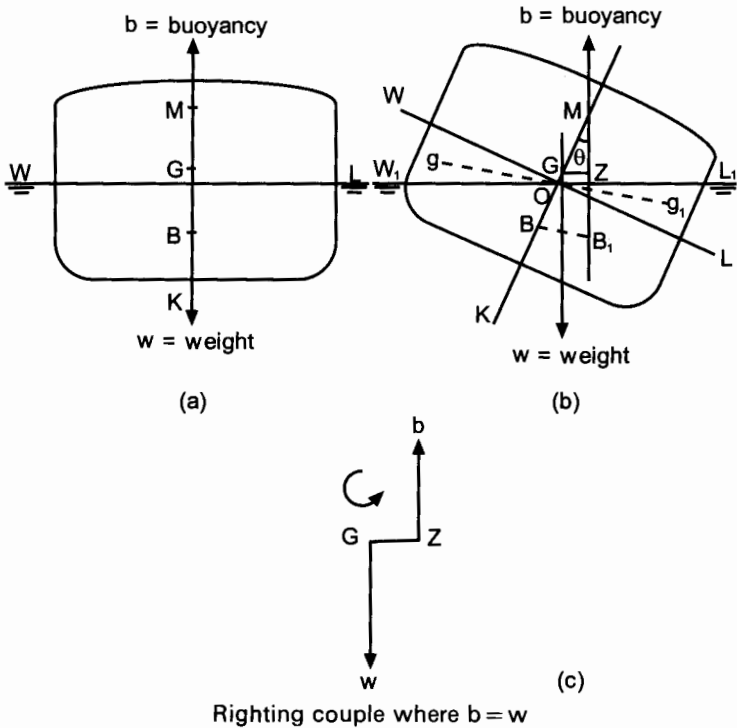
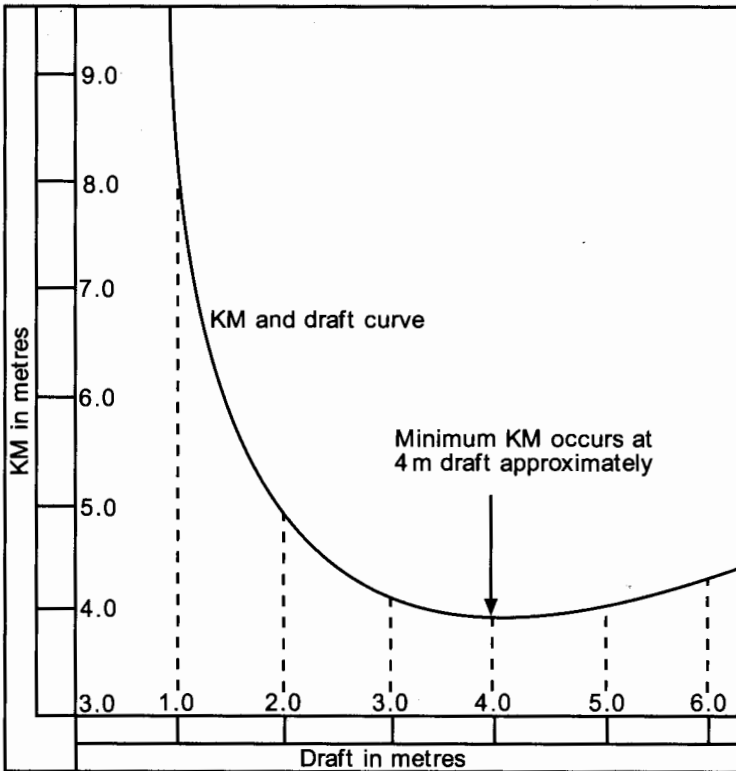

Fig. 6.1. Stable equilibrium
Fig. 6.2
Consider a ship floating upright in still water as shown in Figure 6.1(a). The centres of gravity and buoyancy are at G and B respectively. Figure 6.1(c) shows the righting couple. GZ is the righting lever.
Now let the ship be inclined by an external force to a small angle (θ) as shown in Figure 6.1(b). Since there has been no change in the distribution of weights the centre of gravity will remain at G and the weight of the ship (W) can be considered to act vertically downwards through this point.
The verticals through the centres of buoyancy at two consecutive angles of heel intersect at a point called the *metacentre*. For angles of heel up to about 15° the vertical through the centre of buoyancy may be considered to cut the centre line at a fixed point called the initial metacentre (M in Figure 6.1(b)). The height of the initial metacentre above the keel (KM) depends upon a ship's underwater form. Figure 6.2 shows a typical curve of KM's for a ship plotted against draft.
below the metacentre, that is, the ship must have positive initial metacentric height. Figure 6.1(a) shows a ship in the upright position having a positive GM. Figure 6.1(b) shows the same ship inclined to a small angle. The position of G remains unaffected by the heel and the force of gravity is considered to act vertically downwards through this point. The centre of buoyancy moves out to the low side from B to B_1 to take up the new centre of gravity of the underwater volume, and the force of buoyancy is considered to act vertically upwards through B_1 and the metacentre M. If moments are taken about G there is a moment to return the ship to the upright. This moment is referred to as the *Moment of Statical Stability* and is equal to the product of the force 'W' and the length of the lever GZ. i.e.